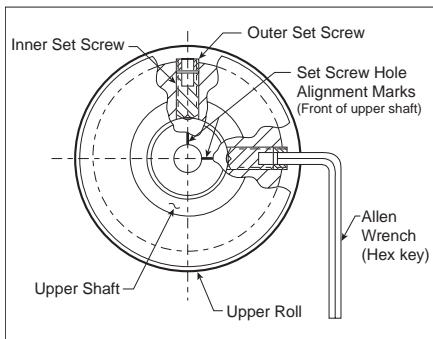

Figure 7
14. Loosen the upper roll by inserting the $\frac{3}{16}$ -inch allen wrench (supplied) into each outer set screw, as shown in Figure 7 above. Loosen each outer set screw approximately $\frac{1}{2}$ a turn.